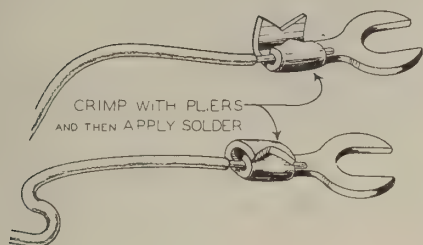

Figure 6
- ( ) Refer to Figure 6 and at the 3" stripped end of the cable install spade terminals on the red and white leads. Connect both the black lead and the shield pigtail to the remaining spade terminal in similar manner.